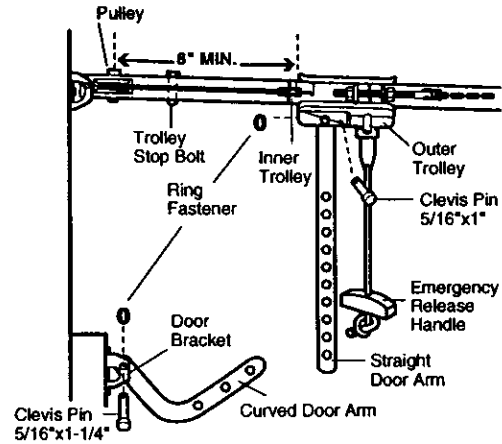

Figure 1
- Make sure garage door is fully closed. Pull the emergency release handle to disconnect the outer trolley from the inner trolley. Slide the outer trolley back (away from the pulley) for 8" minimum as shown in Figures 1, 2 and 3.
• Figure 1: